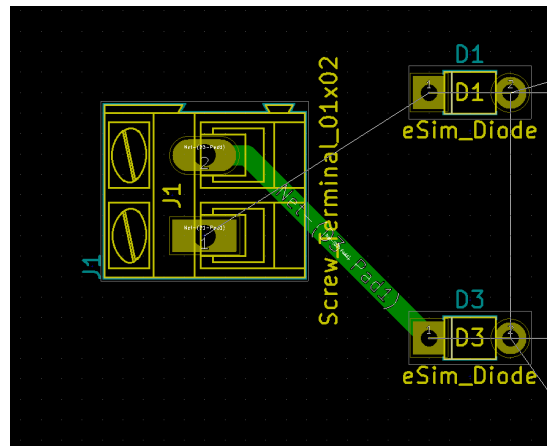

Figure 14.19: Track placed on B.Cu. between Screw_Terminal_01x02 connector and D3 Diode
4. Working layer is B.Cu., Place Track tool is selected earlier. Click the pencil icon tied to cursor on the Node 2 of Screw_Terminal_01x02 and drag the cursor till Node 1 of D3 diode and double click on Node 2 of D3. By double clicking the track will end at Node 2 of D3. Please refer Fig. 14.19 for the mentioned track being placed.